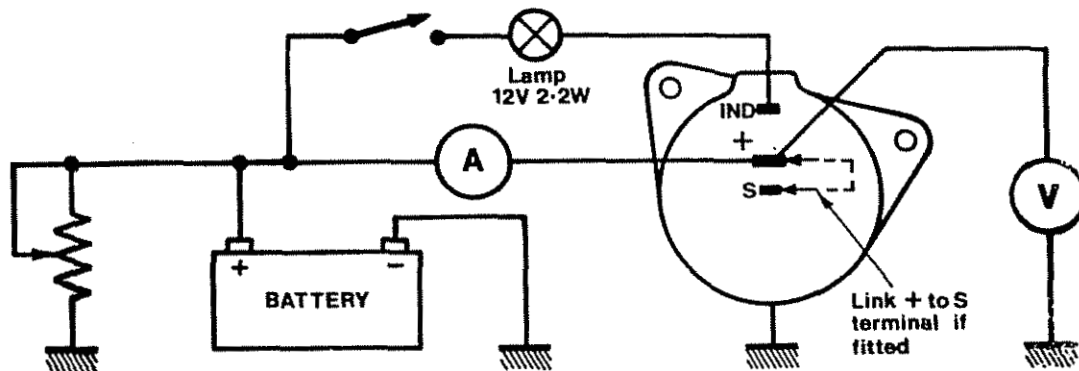
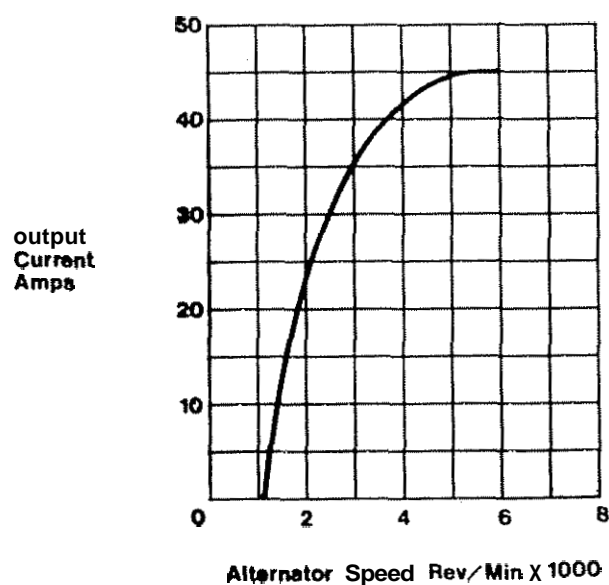

FIG. 12 ALTERNATOR TEST CIRCUIT
FIG. 13 LOAD GRAPH
- (b) Check the **output** of the alternator using the test circuit shown in fig. 12. Adjust the variable resistor for a voltage output of 13.5 volts at a steady engine speed. Compare the ammeter reading with the 'typical output characteristics' graph (fig. 13).